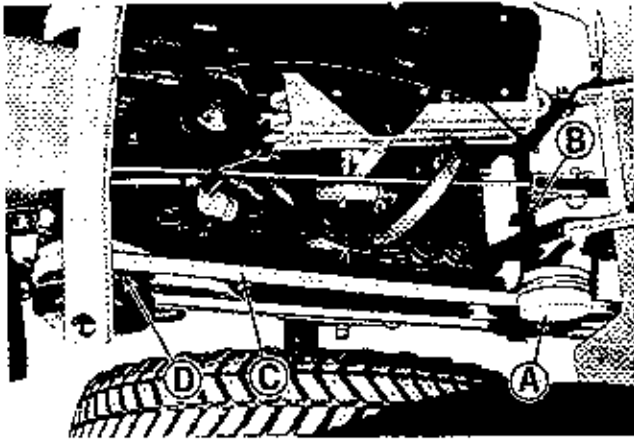

Figure 1. Tiller drive belt installed.
1. See figure 1. Raise the tractor seat back and install the idler pulley assembly (A) by sliding it over shaft (B).
3. See figure 1. Place the tiller drive belt (C) over the outside groove of power take off pulley (D) as shown.
7. See figure 1. Remove the idler pulley assembly (A) and tiller drive belt (C) from the tractor.